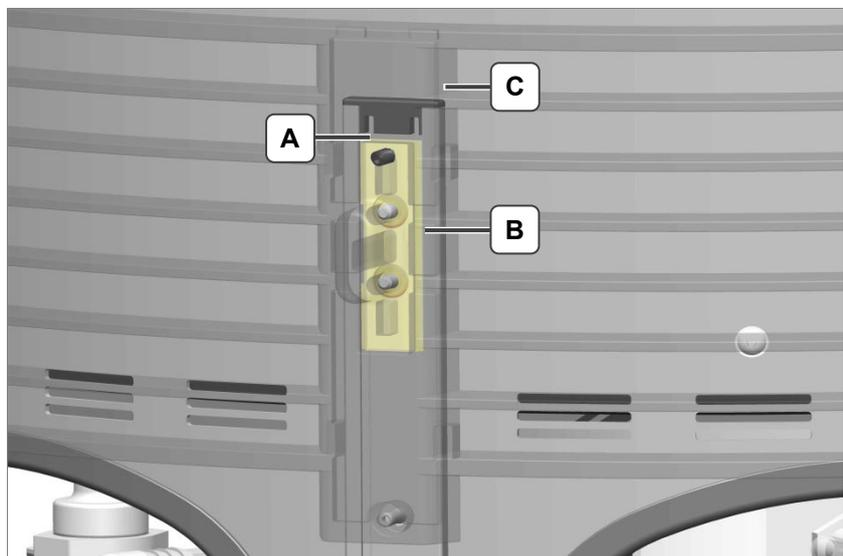

Fig. 4.2.1 Protective grilles guide mechanism
1. Insert the two protective grilles with the carriage (Fig. 4.2.1.B) in each case from above into the guide rails.
2. Unscrew the grub screws (Fig. 4.2.1.A) at the upper ends of the guide rails by approx. 2 turns.
3. Place the plastic cap (Fig. 4.2.1.C) on to the edge of the guiding rail.